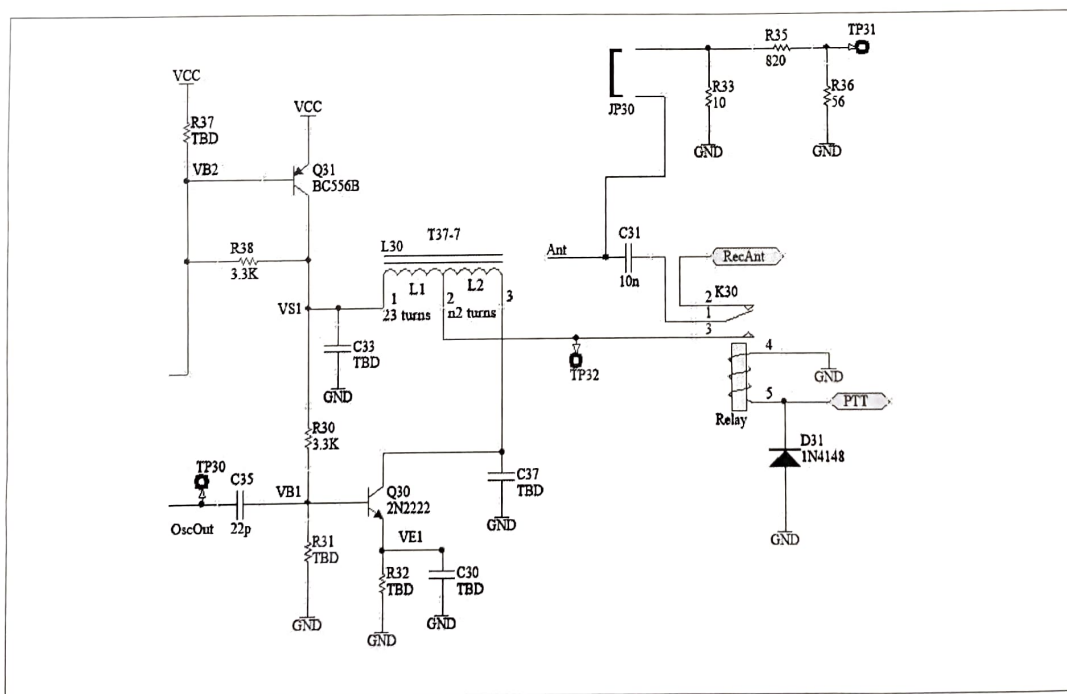

Figure 5: Schematic of transmitter amplifier.
- The tuned RF amplifier to be mounted is the transmitter (TX) amplifier operating at 27 MHz. This circuit is given in Fig. 5. L30 is a tapped inductance. The number of turns of L2 is determined in the preliminary work. It is supposed to transform the impedance of 10Ω to the optimum load resistance of the transistor. Cut 40 cm of 0.35 mm *enameled* wire to wind L1 and L2 on the T37-7 toroid. T37-7 is a core with an outer diameter of 0.37 inches or 9.4 mm (see p. 419). The windings should be single-layer without scrambles. Randomly wound coils do not perform well. The increased capacitance between the windings has a detrimental effect on the inductance performance. Count the turns of